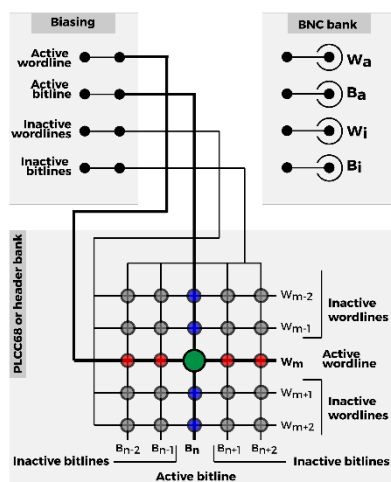

Figure 5: Live: Local session mode board connectivity.
1. **Live: Local** - normal operation mode, all outputs are applied to the on-board package holder, and to the surrounding headers (Figure 5)